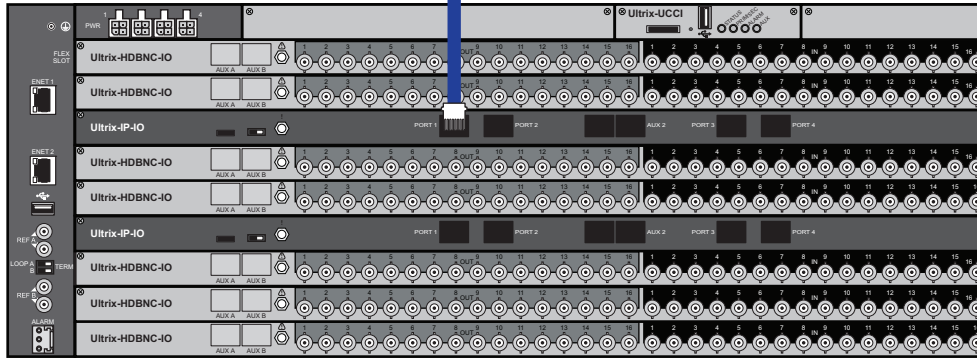

Figure 32 Example of ULTRIX-IP-IO with 3G HD Video Streams
**Figure 32** shows two ULTRIX-FR5 routers with the first router (Frame A) transmitting eight 3G HD video streams and the second router (Frame B) receiving eight 3G HD streams.